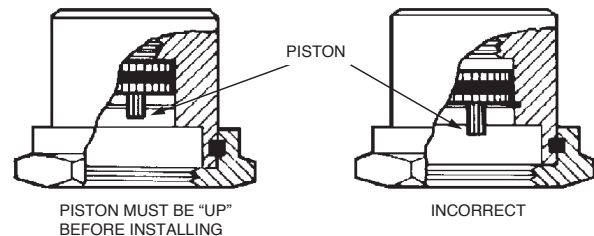

FIGURE 10-3
9. Reset pneumatic container actuator(s). See Figure 10-3.